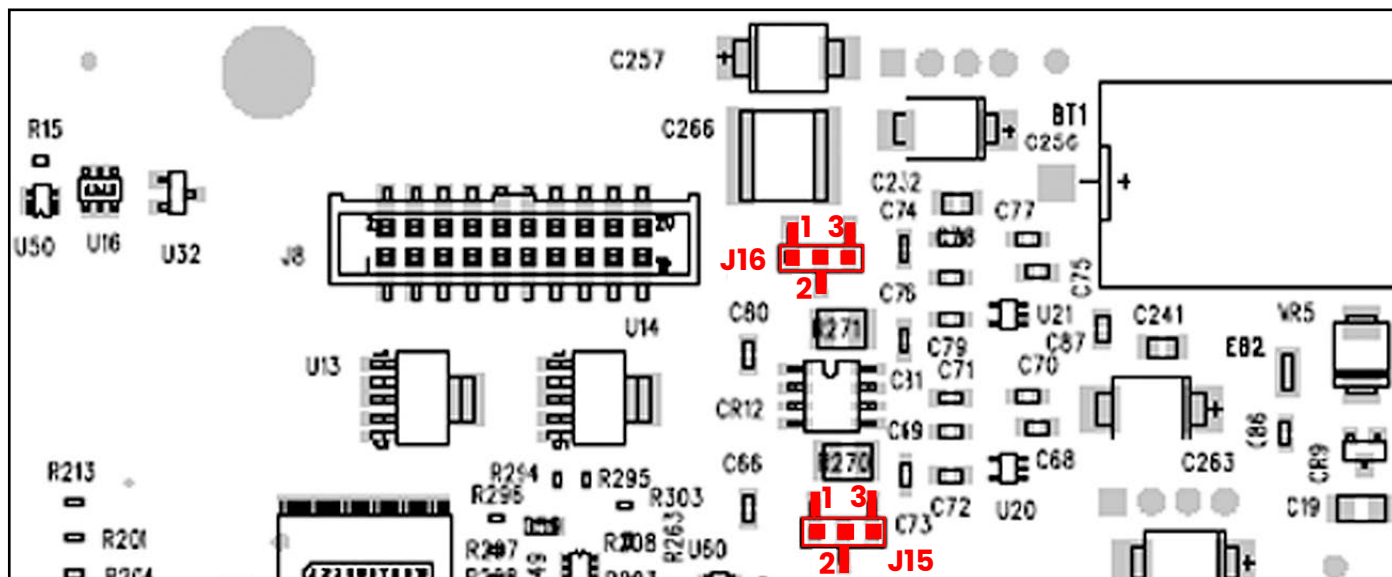

Figure 27: RS-485 Mode Termination - Install Jumpers at J15 and J16, Pins 1 and 2
- b. Using long-nose pliers, move jumpers J15 and J16 from pins 2 and 3 (default setting from factory) to pins 1 and 2 (see *Figure 27* on page 27). J16 is the termination for port 1 and J15 is the termination for port 2. It is also recommended that basic ESD precautions such as grounded wrist straps be used for this procedure.
For multiple **Aurora H2O** units connected in daisy-chain fashion to the RS485 interface, it is important that the farthest unit away from the transmitting device be the only unit incorporating any termination (see *Figure 27* on page 27). All other units must have jumpers J15 and J16 in positions 2 & 3 (default setting from the factory). For more details on RS-485 wiring or operation, refer to TIA/EIA-485-A Specification.